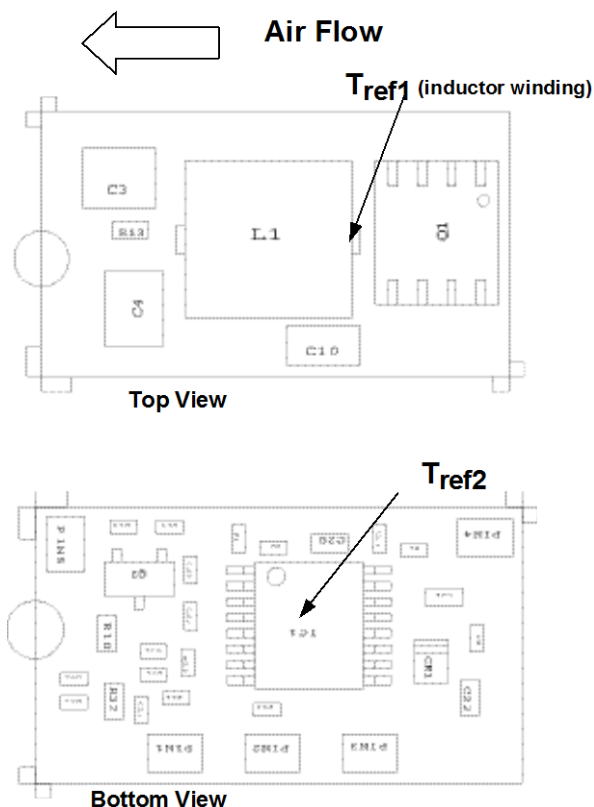
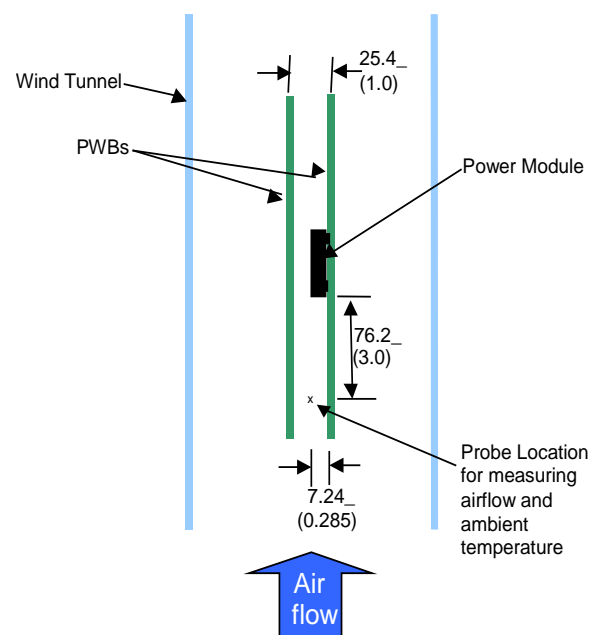

Figure 32.  $T_{ref}$  Temperature measurement location.
Figure 33. Thermal Test Set-up.
To provide over temperature protection in a fault condition, the unit relies upon the thermal protection feature of the controller IC. The unit will shutdown if the thermal reference point  $T_{ref2}$ , (see Figure 33) exceeds 140°C (typical), but the thermal shutdown is not intended as a guarantee that the unit will survive temperatures beyond its rating. The module will automatically restarts after it cools down.
Considerations include ambient temperature, airflow, module power dissipation, and the need for increased reliability. A reduction in the operating temperature of the module will result in an increase in reliability. The thermal data presented here is based on physical measurements taken in a wind tunnel. The test set-up is shown in Figure 33. Note that the airflow is parallel to the long axis of the module as shown in figure 32. The derating data applies to airflow in either direction of the module's long axis.
The thermal reference point,  $T_{ref1}$  used in the specifications of thermal derating curves is shown in Figure 32. For reliable operation this temperature should not exceed 125°C.